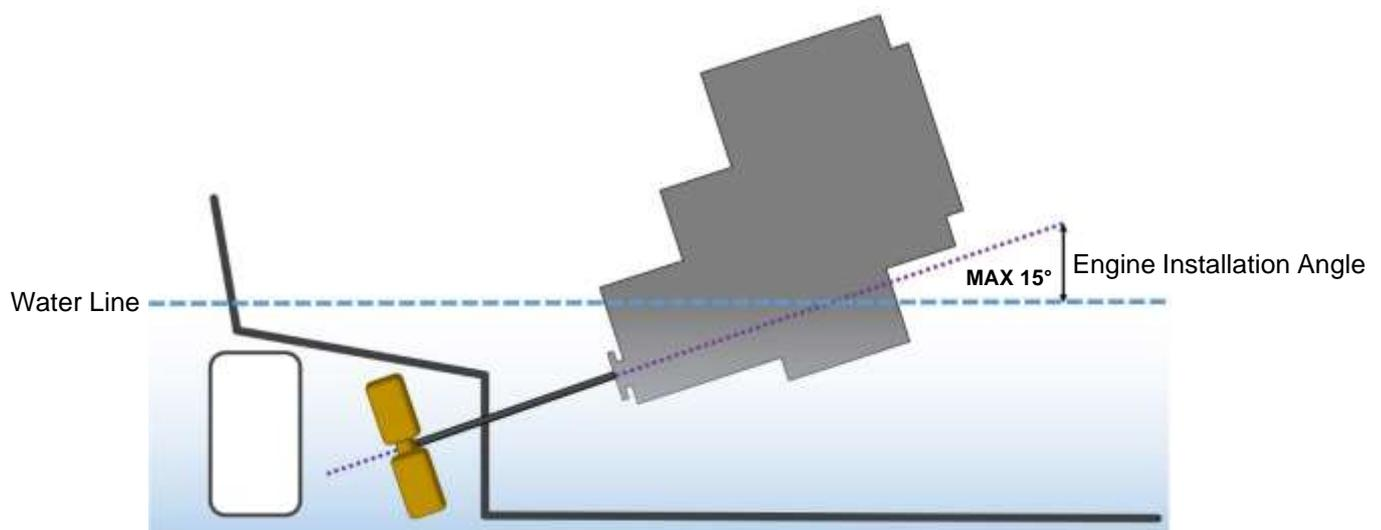

Figure 15: Maximum Engine Installation Angle
- The engine installation angle is the angle of the crankshaft centre to the water line (**Figure 15**).